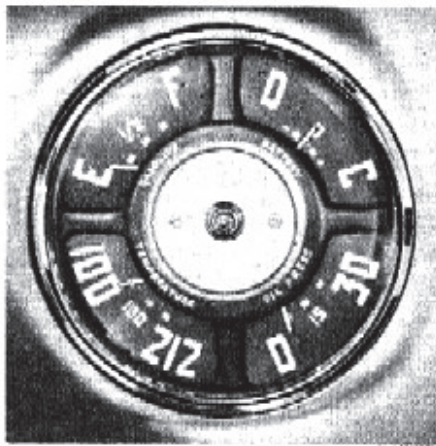

Fig. 3—Instrument Group
**Gasoline Gauge.** The electrically operated gasoline gauge is at the upper left side of the instrument group (fig. 3). It is wired through the ignition switch; therefore, only indicates the amount of fuel in the tank when the ignition switch is turned on.
**Temperature Indicator.** The water temperature indicator is at the lower left side of the instrument group (fig. 3). It is, in effect, a thermometer with the operating bulb located in the water jacket at the left rear corner of the cylinder head. Normally this thermometer will register between 100 and 180
**Ammeter (Battery Indicator).** The ammeter is the right upper instrument in the group (fig. 3). The ammeter indicates the flow of current to and from the battery, except the current taken by the starting motor. When the engine is turned off or idling and any of the electrical equipment is in use, it is
**Oil Pressure Gauge.** This instrument is in the lower right side of the instrument group (fig. 3). The oil pressure gauge indicates whether or not the oil pump is working, but does not indicate the amount of oil in the crankcase.